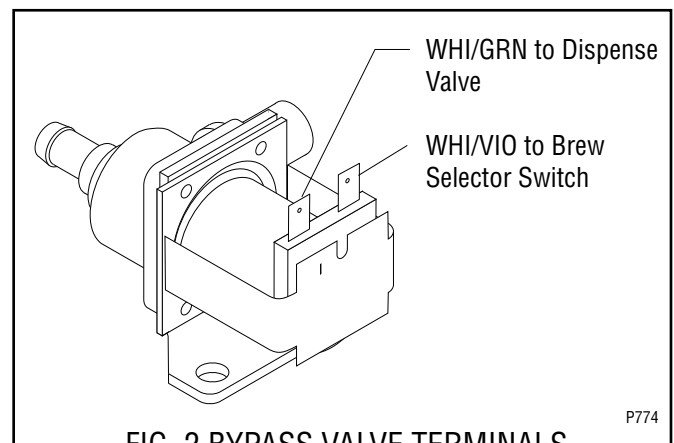

FIG. 2 BYPASS VALVE TERMINALS
8. Refer to Fig. 2 when reconnecting the wires.